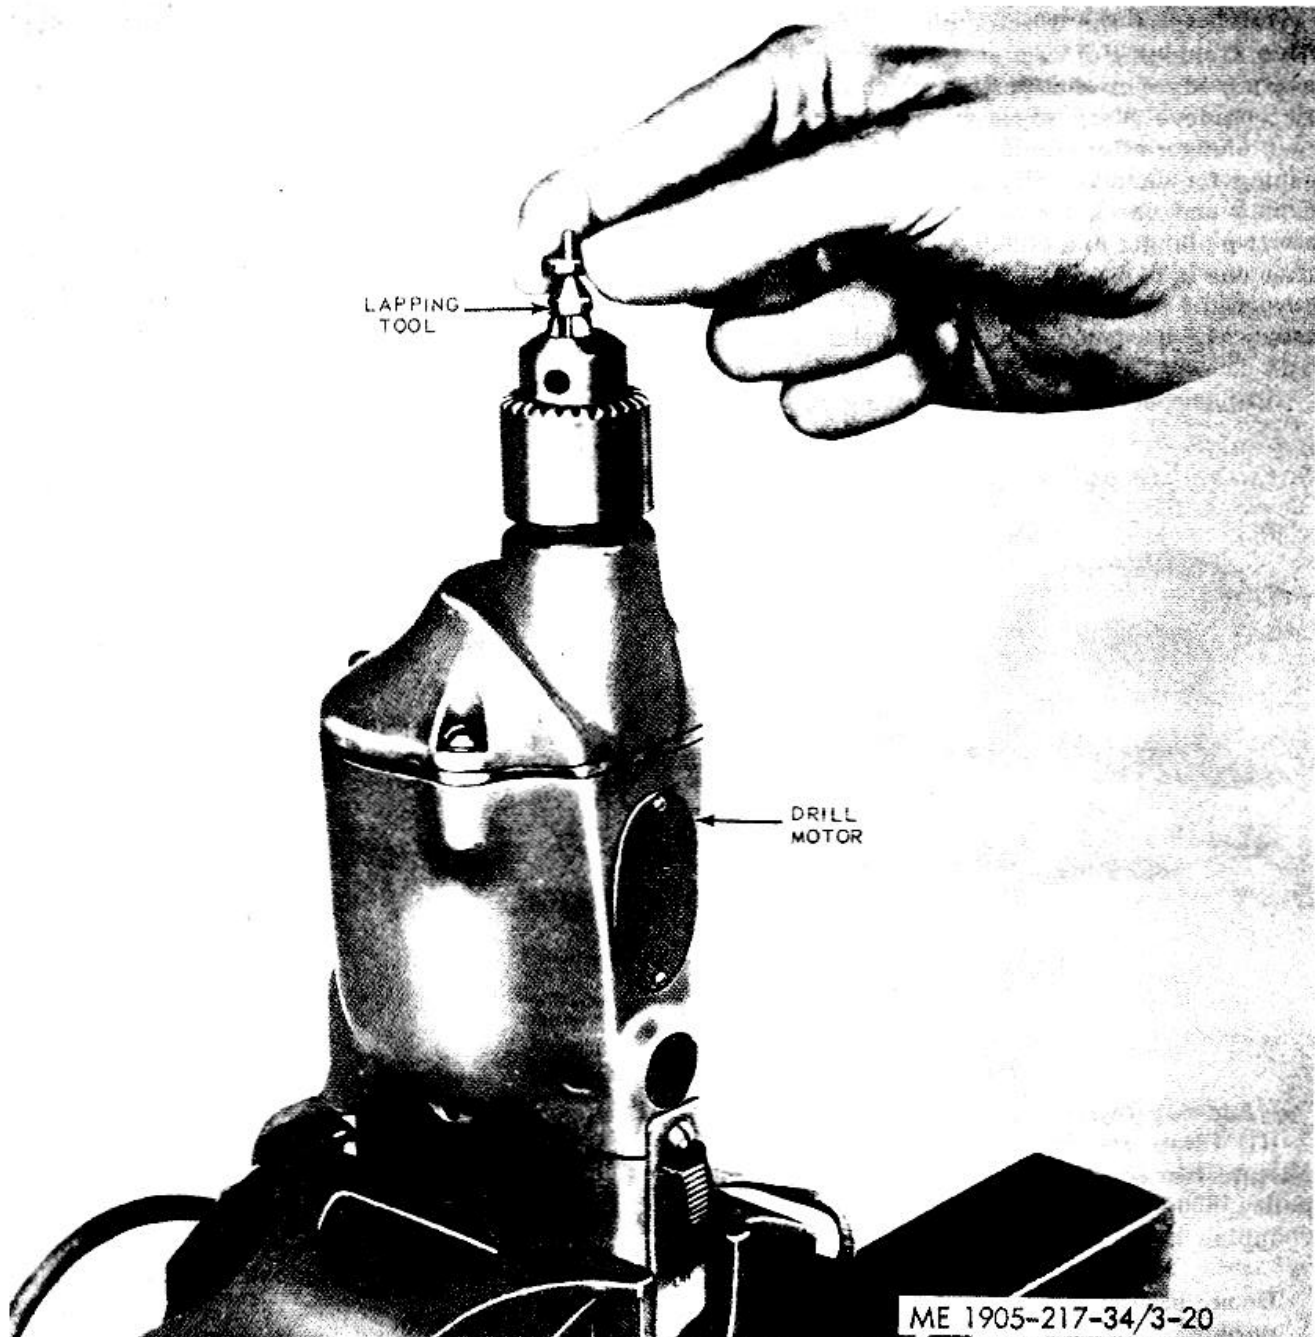

Figure 3-20. Lapping edge of hole in fuel injector valve seat
(2) Place the part to be lapped flat on the block and, using a figure eight motion, move it back and forth across the block. Do not press on tie part, but use just enough pressure to keep the part flat on the block. It is important that the part be kept flat on the block at all times.
(3) After each four or five passes, clean the lapping powder from the part by drawing it across a dean piece of tissue placed on a flat surface and inspect the part. Do not lap excessively.
(4) When the lapped part is flat, wash it in cleaning solvent and dry with filtered compressed air. Place the part on a second block and repeat the lapping procedure (parag (1) through (3) above for a fine finish.
(5) Wash and dry the part again and repeat the above lapping operation WITHOUT lapping powder. This dry lapping will give the part a mirror finish required for perfect sealing.
(6) Only the edge of the hole in crown valve seat contacts the valve, this edge must be nearly perfect, must be a true circle and present an unbroken surface. Examine the edge of the hole under a magnifying glass for chipping or cracks. If the edge of hole shows irregularities, the hole must be lapped.
(7) Position a drill motor in a vice and mount the lapping tool in the motor (fig. 3-20) and place a small amount of oil mixture on the tool.